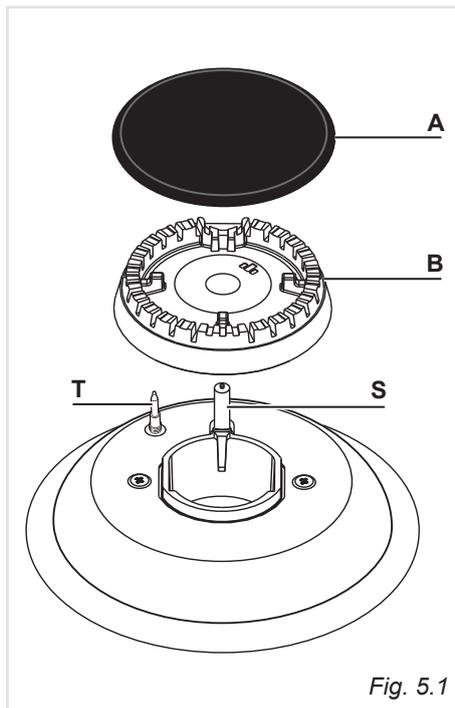

Fig. 5.1
- Check that the probe "T" (figs. 5.1, 5.3) next to each burner is always clean to ensure correct operation of the safety valves.
- Check that the electrode "S" (figs. 5.1, 5.3) is always clean to ensure trouble-free sparking.
It is very important to check that the burner flame spreader "B" and the cap "A" have been correctly positioned (see figs. 5.1 and 5.2). Failure to do so can cause serious problems.